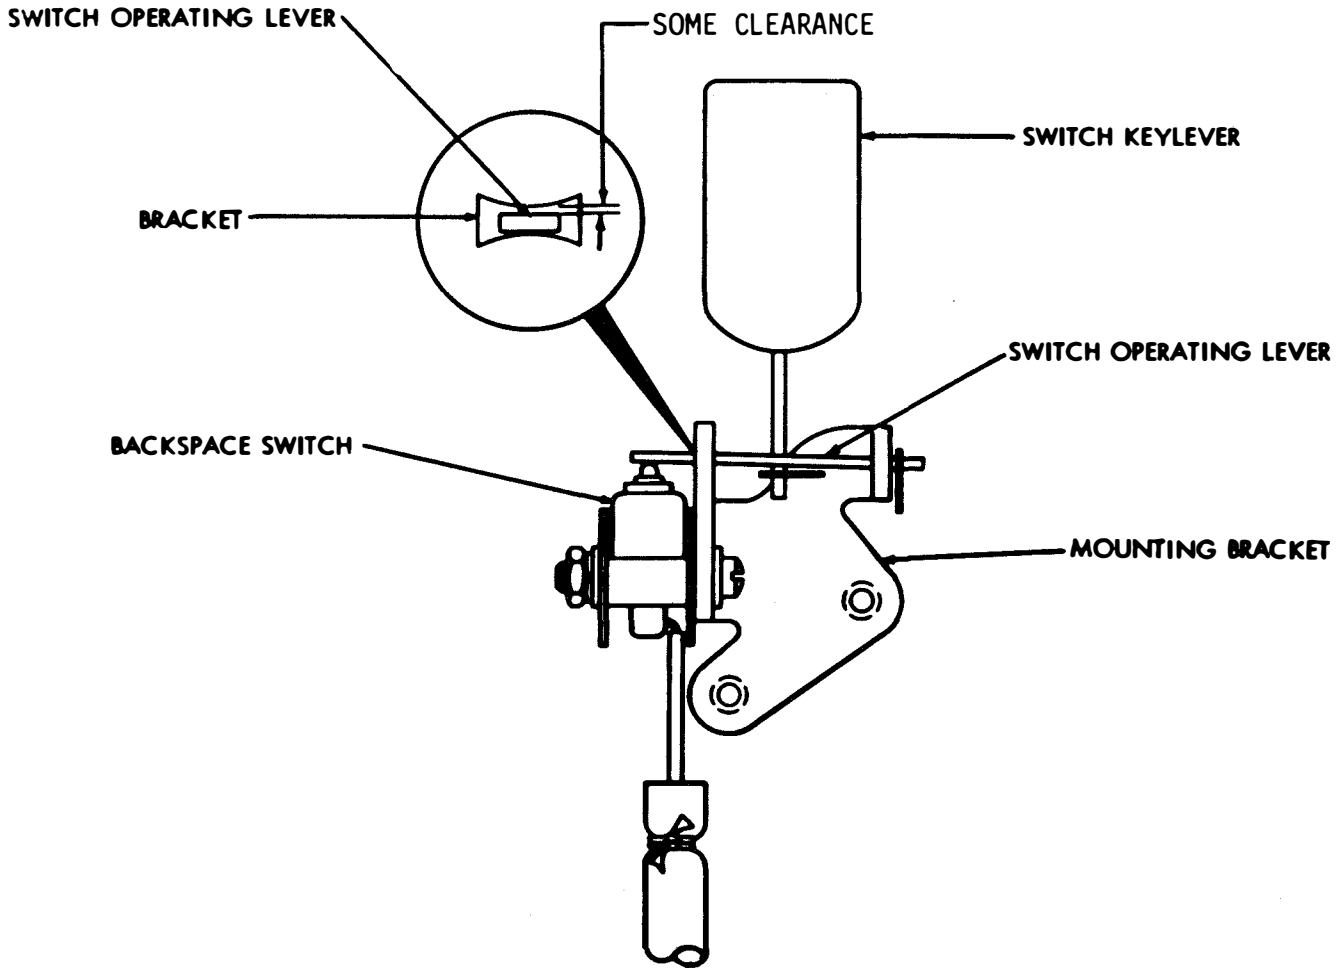

Figure 6-253. Power Backspace Switch Mechanism
- (1) Refer to figure 6-253.
- (2) Position switch operating lever parallel to the top of its mounting bracket.
(3) With the operating lever depressed to the limit of its travel, verify that the switch is operated.
(4) With switch in unoperated condition and operating lever held parallel to top of its mounting bracket, there should be some clearance between the operating lever and top of the curved slot in the bracket.
(5) Loosen switch bracket mounting screws and position switch bracket as required to meet above conditions.
(6) Tighten mounting screws.